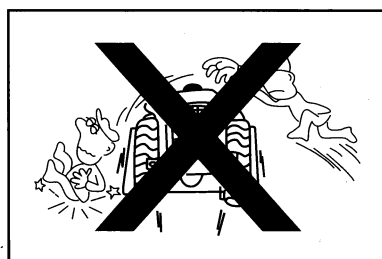

Figure1-27
- Don't jump on or off from the loader. Never getting on or off the loader when the loader is moving. (Figure 1-27)